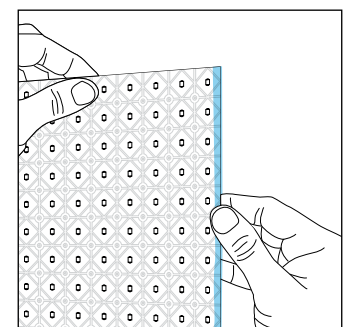

Figure 6
- If the cut edge has the possibility of making contact with a conductive surface, or another light sheet's cut edge, cover the cut edge with RTV sealant (Item #: ASI-388CL-EVO) or another non-conductive conformal coating (figure 6).